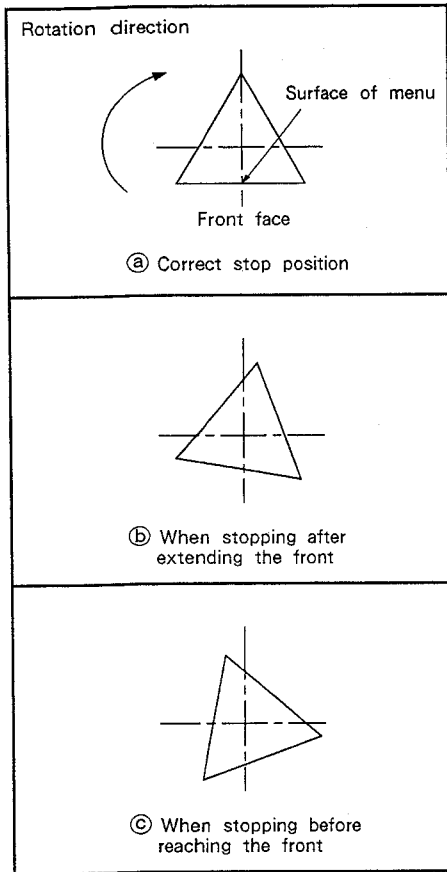

Fig. 7-4
- When the menu stops after extending past the front Loosen screw ②, then tighten screw ② turning it clockwise.
- When menu stops before reaching the front Loosen screw ② and turn screw ② counterclockwise to loosen it.
- (5) Turn the menu again and firmly tighten screw ② when the menu stops directing its surfaces to the front. (Fig. 7-4 @)
- (6) Finally, turn the menu and check that the menu stops directing all of its three surfaces to the front at every 120° rotation.